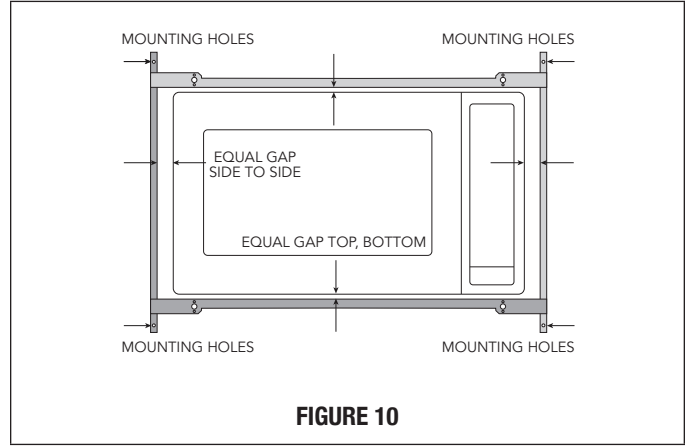

FIGURE 10
E. BACK FRAME INSTALLATION: Position BACK FRAME equal space top to bottom, side to side. Mark for 4 holes, center punch and pre-drill with 1/16" drill bit. Secure frame with 4 SCREWS (G). See Figure 10.